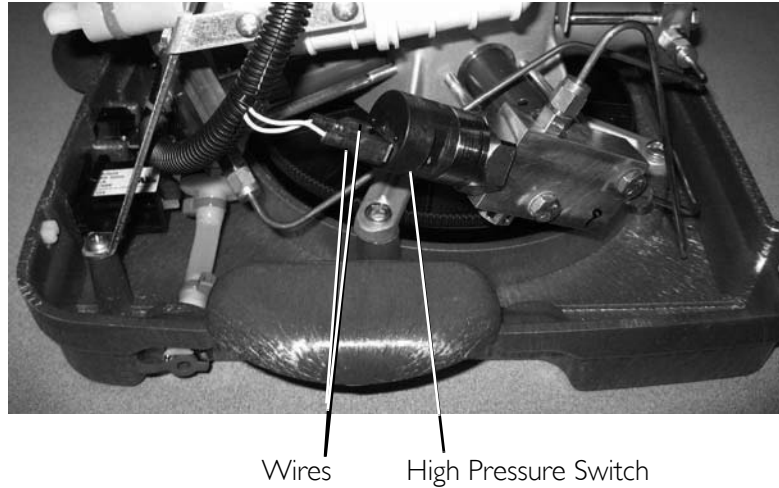

FIGURE 8.2 Base Replacement
8. Disconnect the two wires from the high pressure switch (FIGURE 8.2).
21. Connect the two wires to the high pressure switch (FIGURE 8.2).